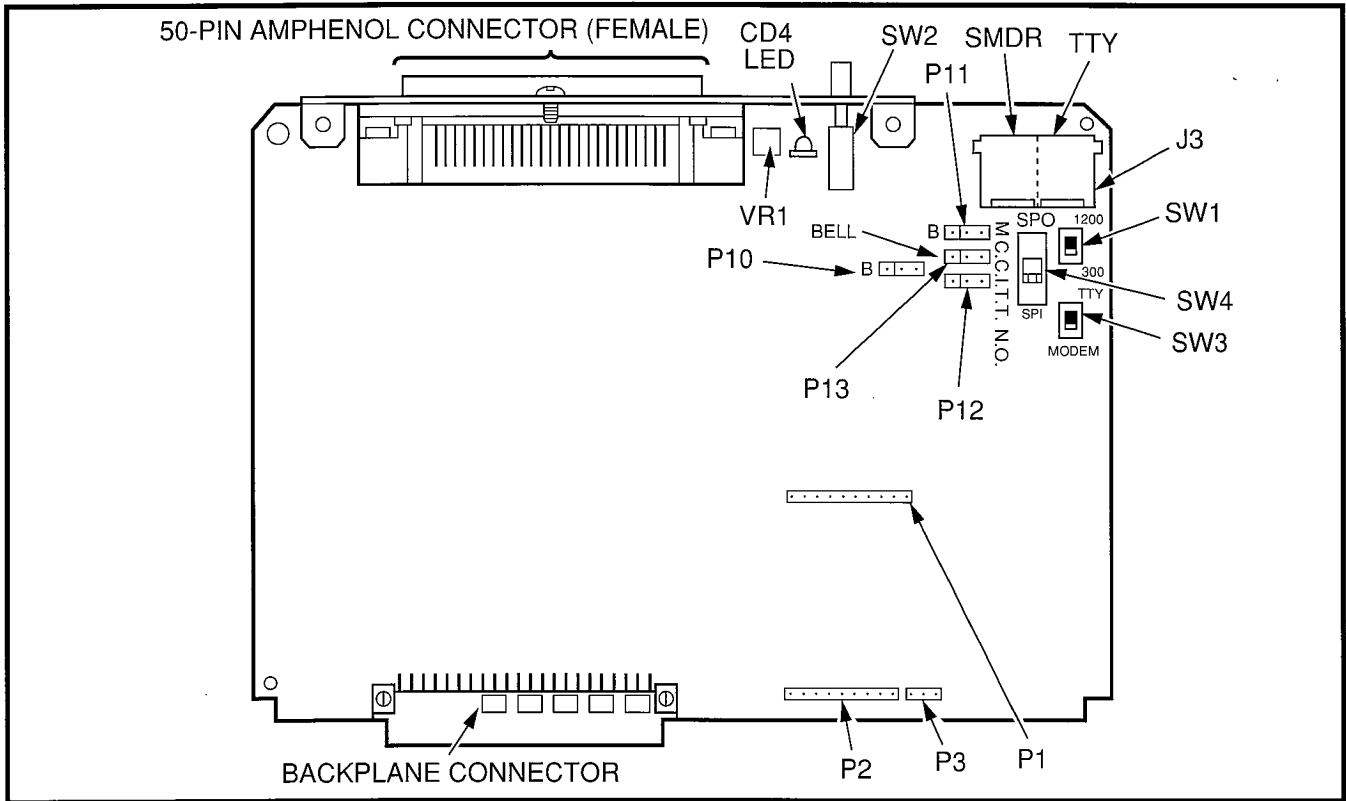

FIGURE 6-10—PIUO CONTROLS, INDICATORS, AND INTERFACE CONNECTORS
9.02 PIOU controls, indicators, and interface connectors are shown in Figure 6-10 and de-